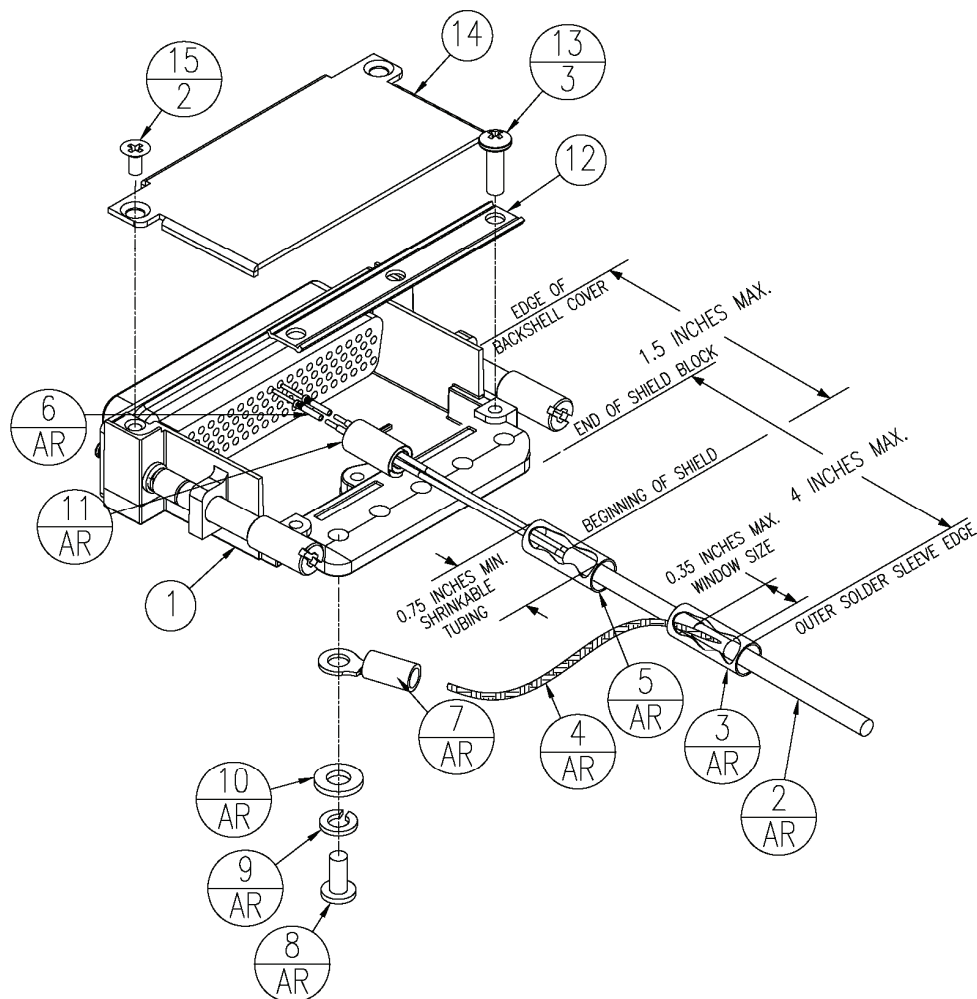

Figure B-5 Shield Install onto a Jackscrew Backshell (78 pin example)
In Figure B-5, “AR” denotes quantity “As Required” for the particular installation.
7. Cut the Flat Braid (item 4) to a length that, with the addition of a ring terminal, will reach one of the tapped holes of the Jackscrew backshell (item 1) (Figure B-5). An appropriate amount of excess length without looping should be given to the Flat Braid (item 4) to allow it to freely move with the wire bundle.